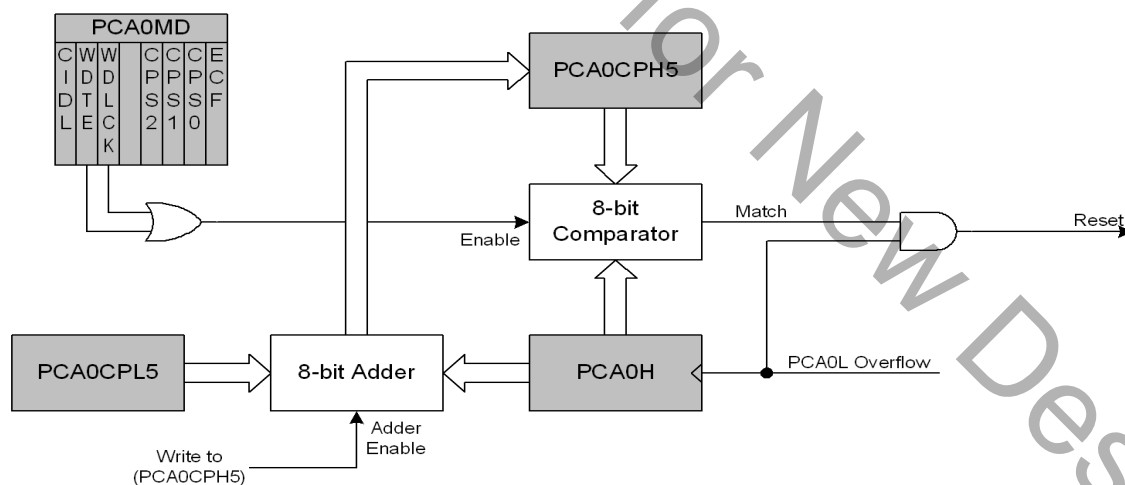

Figure 28.11. PCA Module 5 with Watchdog Timer Enabled
- While the WDT is enabled, writes to the CR bit will not change the PCA counter state; the counter will run until the WDT is disabled. The PCA counter run control bit (CR) will read zero if the WDT is enabled but user software has not enabled the PCA counter. If a match occurs between PCA0CPH5 and PCA0H while the WDT is enabled, a reset will be generated. To prevent a WDT reset, the WDT may be updated with a write of any value to PCA0CPH5. Upon a PCA0CPH5 write, PCA0H plus the offset held in PCA0CPL5 is loaded into PCA0CPH5 (See Figure 28.11).